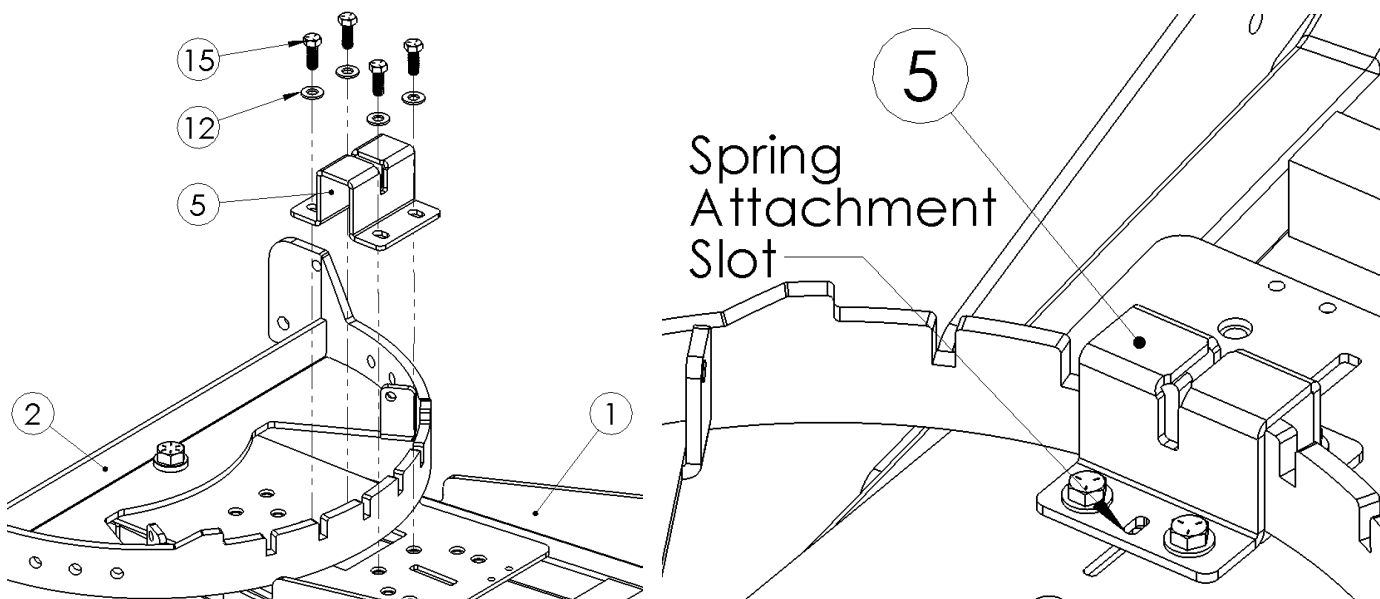

Figure 6
- 2) Attach the Pivot Lever Support Bracket to the Lift Arm using four 3/8" x 1.00" Hex Bolts and 3/8" Washers as shown in Figure 6. **Note** the Spring Attachment Slot on the Pivot Lever Support Bracket should face forward.